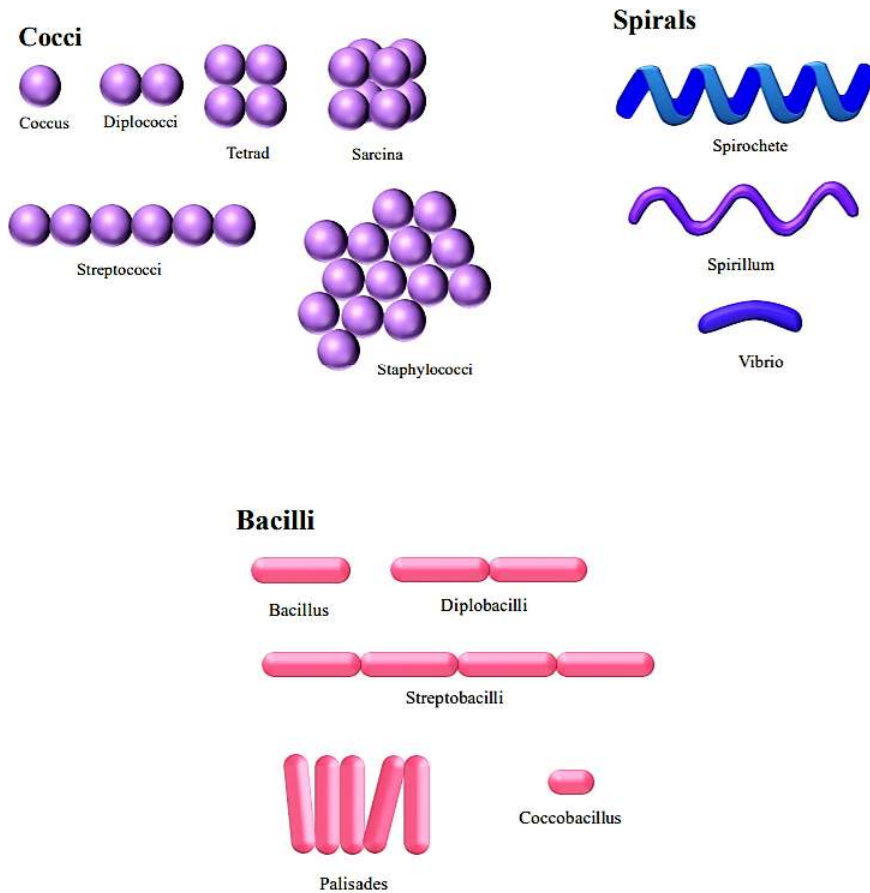

Figure 3.4.2: Common shapes and arrangements of bacteria
- 7. Use the spaces provided to draw the cells. At this point, your instructor will discuss the morphology (shape) and arrangements of the cells you are looking at. (See Figure 3.4.2. at the end of the exercise for more information.)